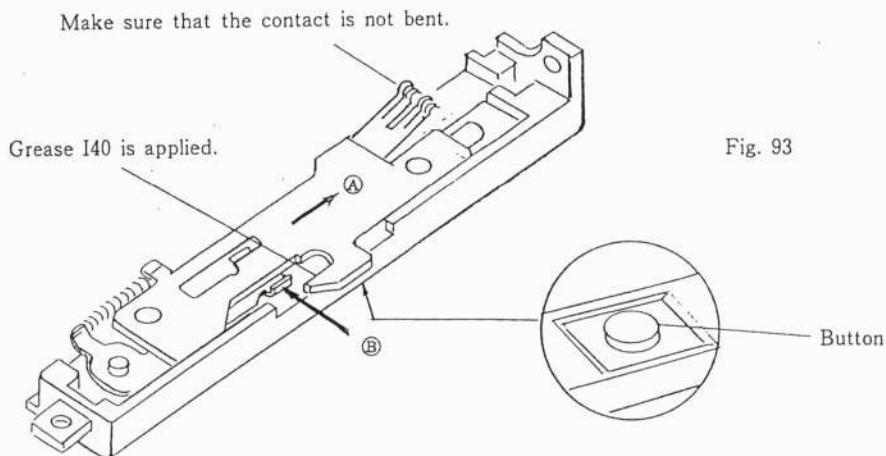

Fig. 93
- 2) Push part Ⓑ in Fig. 93 with a screwdriver to unlock.